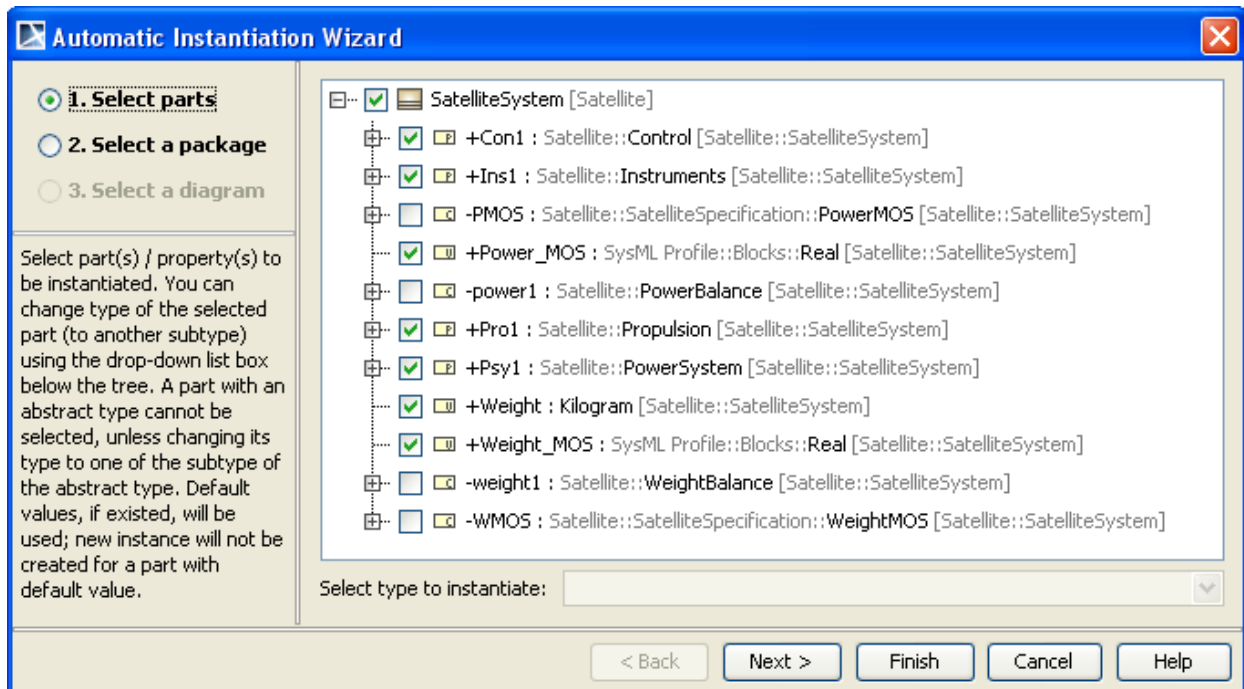

Figure 3.7 Automatic Instance Generation, Part 1
- i. The Automatic Instantiation Wizard (new since MagicDraw 16.5) is launched as in Figure 3.7. Click Next.